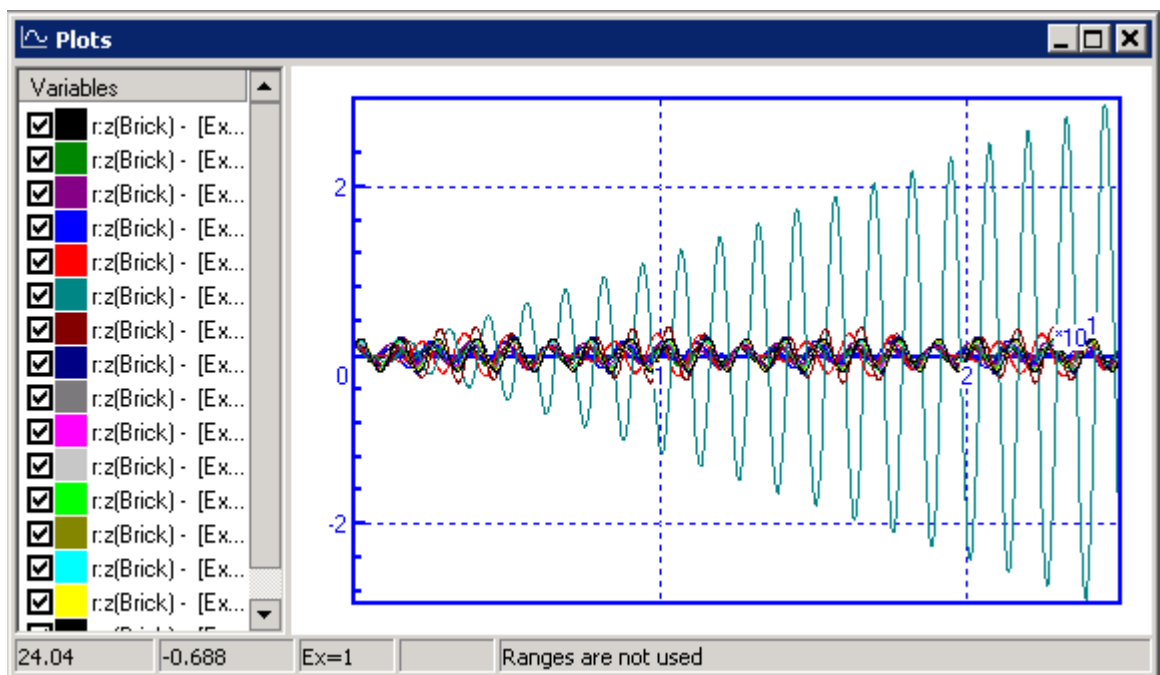

Figure 2.17. Forced oscillation
3. Select all experiments and then drag the **r:z(Brick)** variable to the graphical window, see Fig. 2.17. The resonance case is clearly seen there.